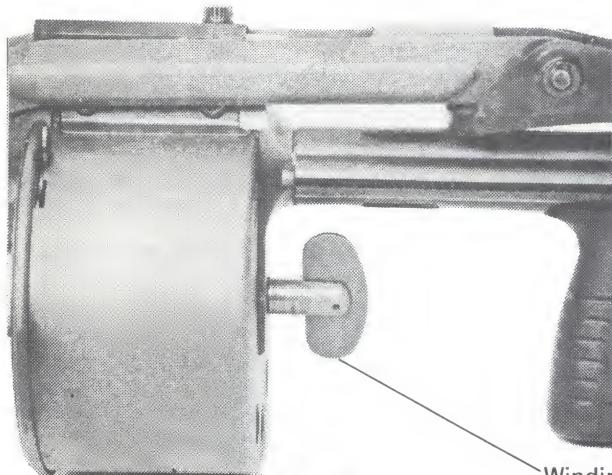

Fig. 12
4. Turn the winding key anti-clockwise and remove key. (Fig. 12).
5. Replace winding key by rotating clockwise until completely locked. (Fig. 12).